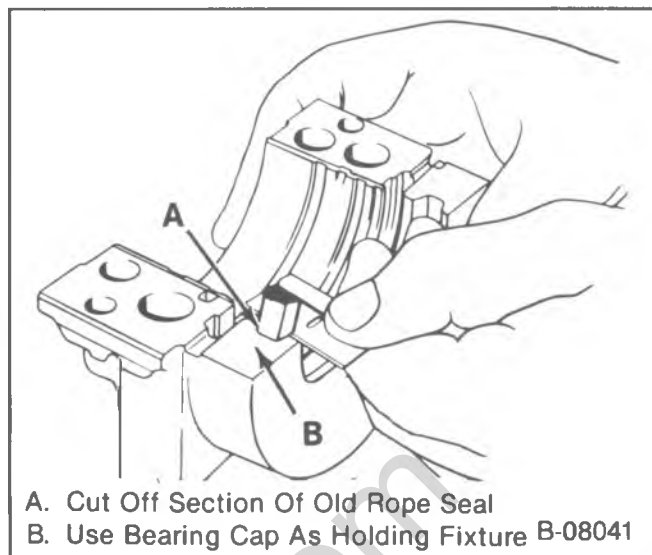

Figure 22—Cutting the Rope Seal
- Measure the amount the seal was driven up on one side. Add 1.5 mm (1/16-inch). Cut this length from the old seal removed from the main bearing cap. Use the main bearing cap as a holding fixture when cutting the seal (figure 22). Use a sharp tool. Repeat this procedure for the other side.